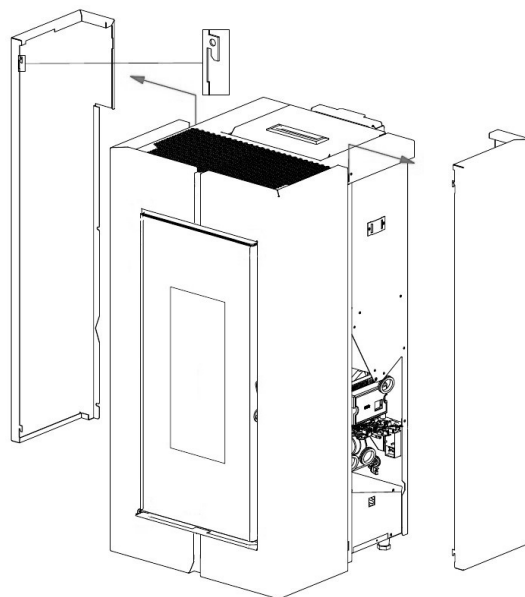

Fig. 52 - Unhook the side panels
- Unhook the back side panels (see **Fig. 52**).